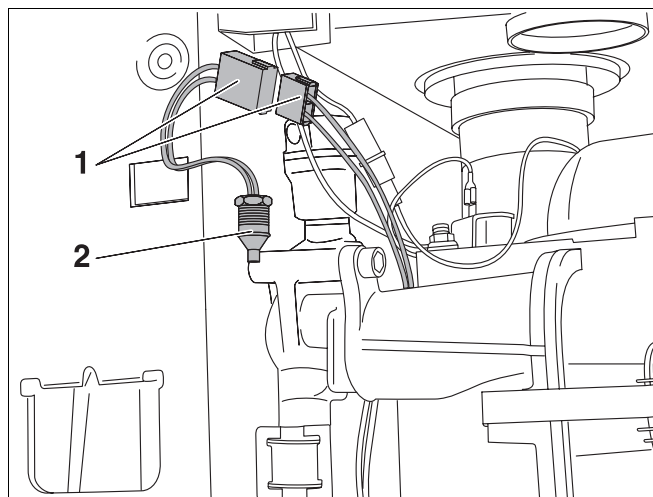

Fig. 68 600 - 11S / 19S / 24S / 24C:
- Loosen the plug-in connection (fig. 68, item 1).
- Unscrew the sensor (fig. 68, item 2) and replace with a new unit.